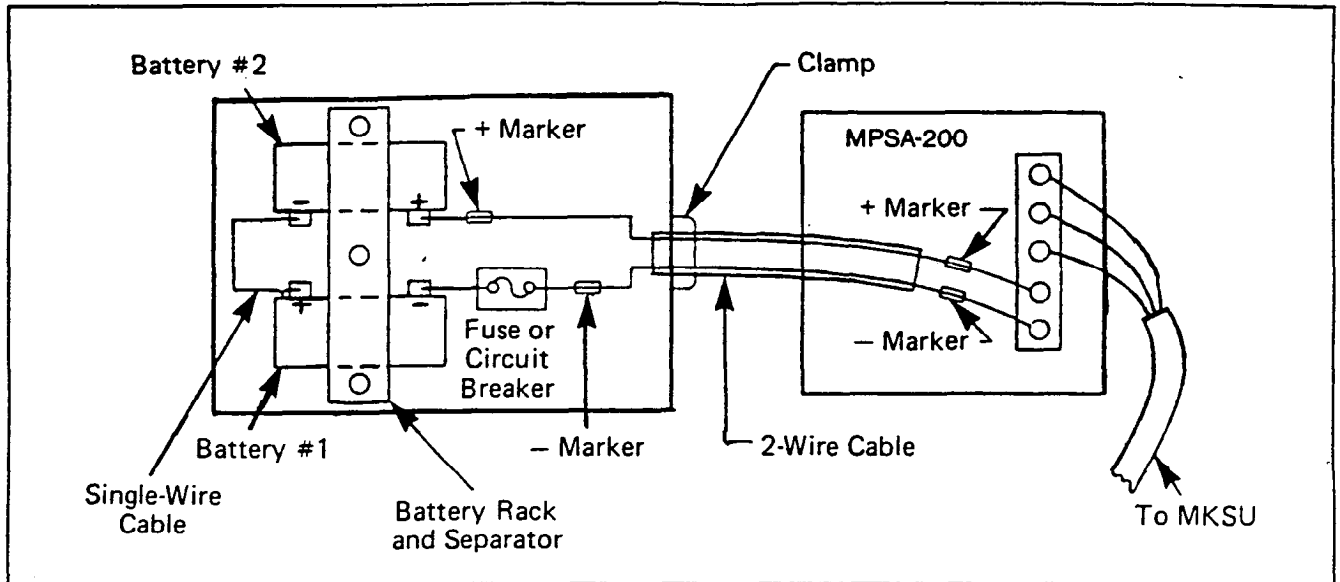

FIGURE 18—RECOMMENDED WIRING DIAGRAM
02.48 Connect the two batteries with the single-wire cable—one end to the positive terminal on battery #1 and the other end to the negative terminal on battery #2 (Figure 18).